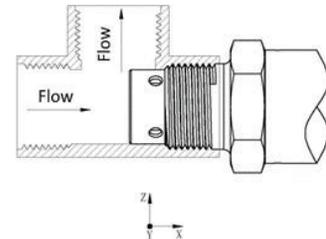

Figure 4. Installation Method (3)
- The conductivity cell is located on the side of the pipe, which avoids the accumulation of air to a greater extent and is less susceptible to contaminant deposits and ensures accurate measurement as shown in Figure 4.